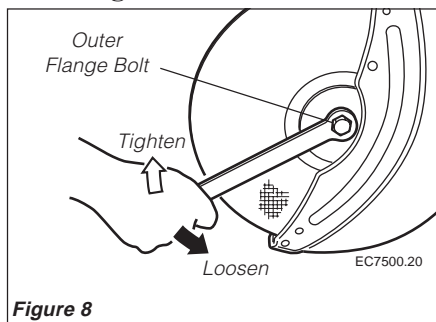

Figure 8
- Loosen bolt with the wrench and remove bolt and outer flange. See Figure 8.